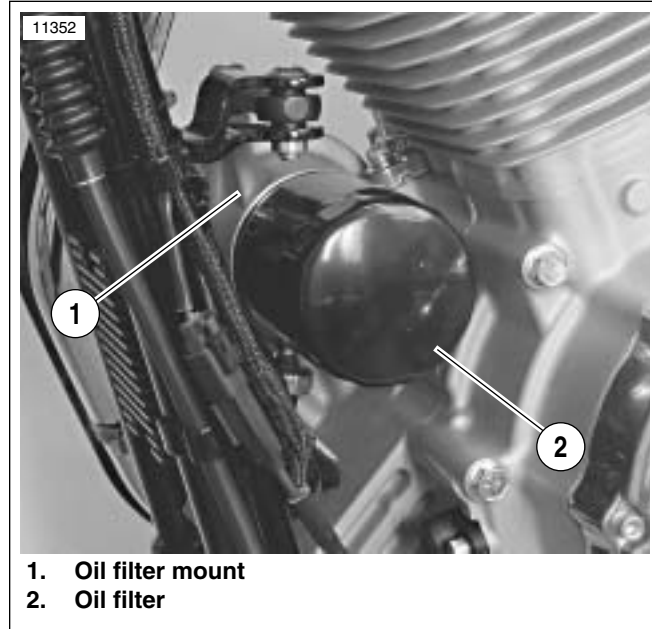
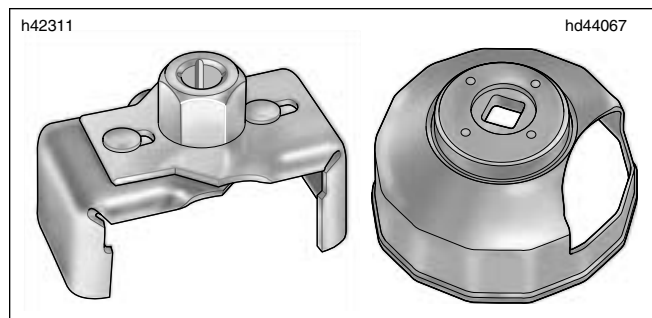

Figure 1-5. Oil Filter
Figure 1-6. Oil Filter Wrench
2. See Figure 1-5. See Figure 1-6. Remove oil filter using HARLEY-DAVIDSON OIL FILTER WRENCH. Turn oil filter counterclockwise to remove from filter mount.